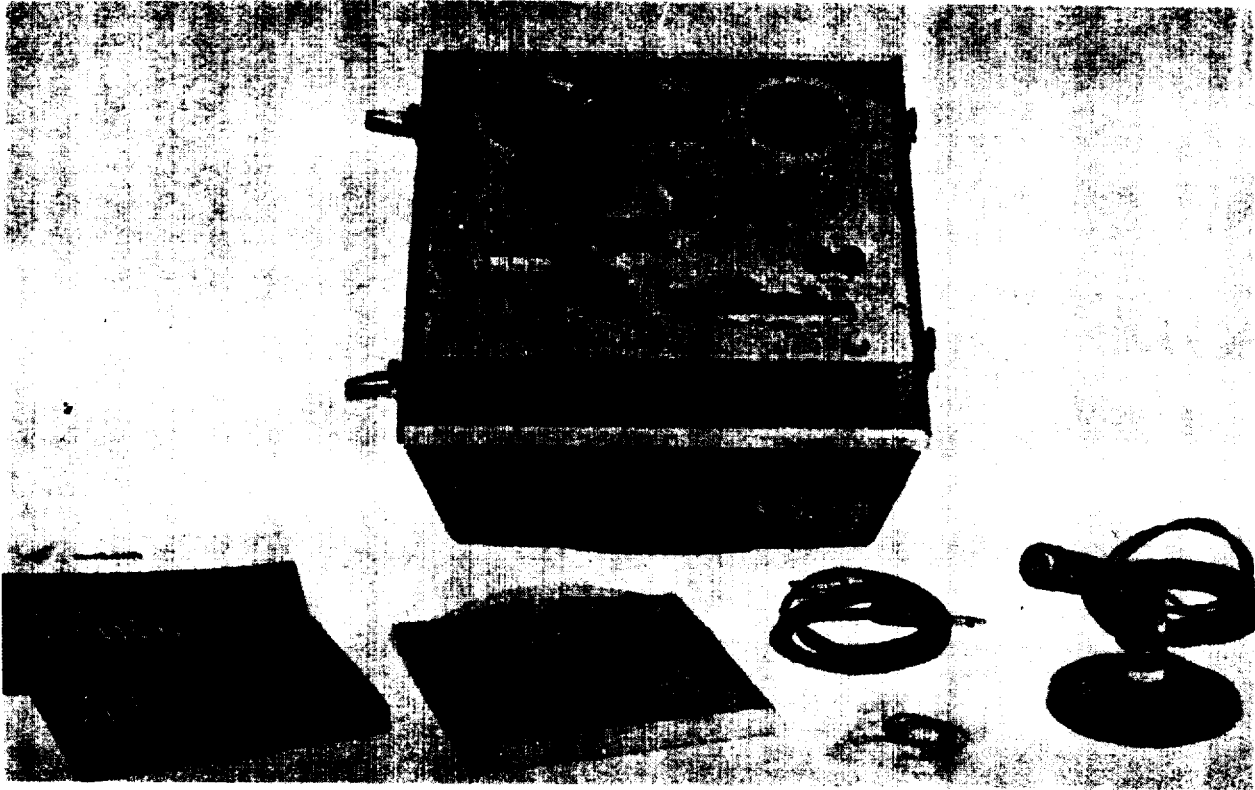

Figure 1-1. Sound Recorder-Reproducer RD-365/UN (Cover Removed)
- a. This manual describes the RD-365U/N (fig. 1-1), and covers its operation, and organizational and direct support maintenance.